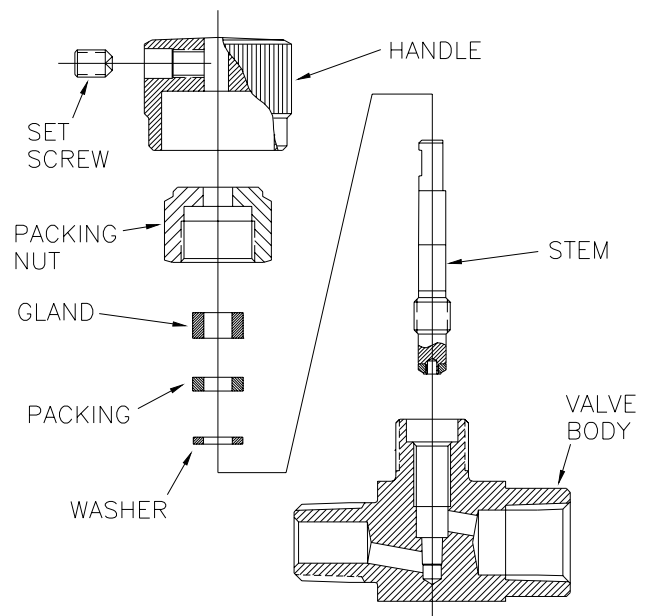

Figure 4: Bar Stock Needle Valve w/Grafoil® Packing Exploded View
- C) Grafoil® Stem Packing (optional): Refer to Figure 4. Stack the three packing components on the Lower Stem (either “K” or “R”) in the following order, with the first item being placed above the Stem threads. Then proceed to Step 8.